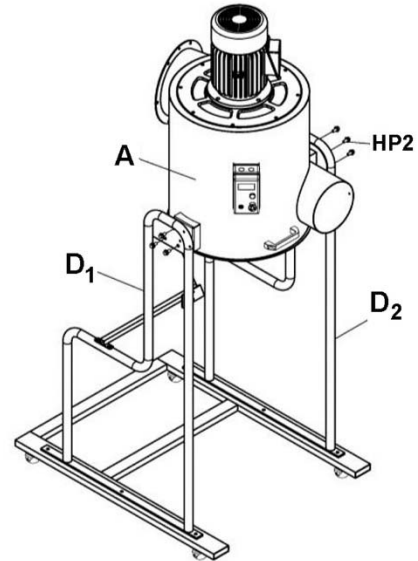

Figure 5
6. Position main housing (A) between left and right stands (D₁, D₂), and secure with flange head screws (HP2). See Figure 5.